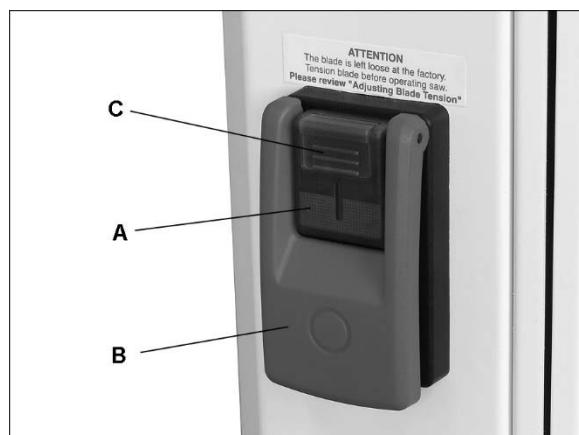

Figure 8-1 – Start/Stop Switch
Press the green **on** button (A, Figure 8-1) to start. Press the red **stop** button (B) to stop.
The switch has a safety feature that prevents unauthorized or accidental starting of the machine. With band saw turned off, slide safety key (C, Figure 8-1) up and remove it from switch. This piece must be re-inserted before band saw can operate.